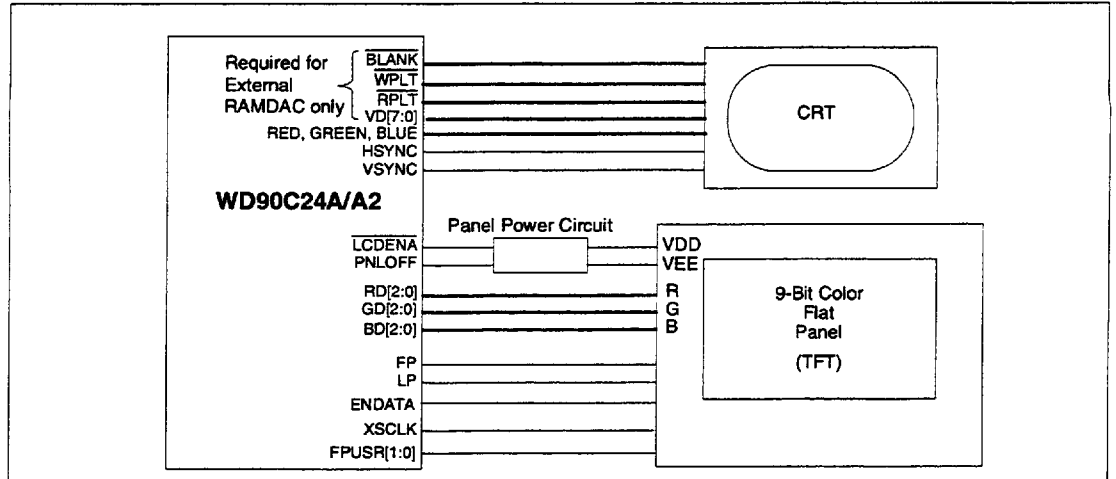

FIGURE 26-3. SIMULTANEOUS CRT AND 9-BIT COLOR TFT LCD PANEL INTERFACE
- Simultaneous CRT and 9-Bit Color TFT LCD Panel Interface (Figure 26-3)